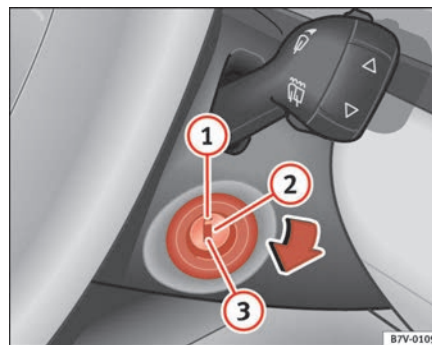

Fig. 126 Ignition key positions
In position ⇒ fig. 126 ① the ignition is switched off, and the steering wheel lock can be engaged.
- Turn the ignition key to position ⇒ page 163, fig. 126 ③ to start the engine.
- Turn the ignition key to position $\Rightarrow$ page 163, fig. 126 ②. The warning lamp  lights up to show that the glow plugs are preheating the engine.
- When the warning lamp goes out, turn the key to position ③ to start the engine. Do not press the accelerator.
- Turn the ignition key to position $\Rightarrow$ page 163, fig. 126 ①. ►